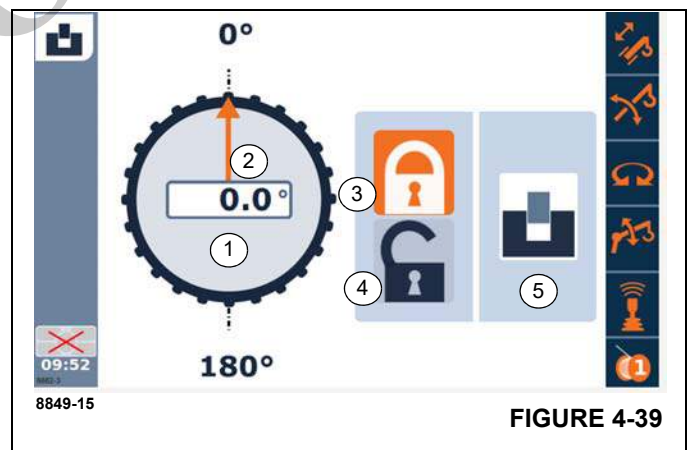

FIGURE 4-39
- To secure the 360° lock use the jog dial to highlight (4), (Figure 4-39) and press Enter. #5 should change from showing unlocked to locked.
- Select the symbol (4), (Figure 4-39).
- Press the button until the symbol (5) is displayed with the pin out.